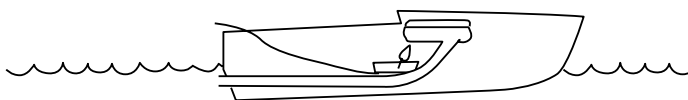

Figure 2.
5. Place the candle holder inside the boat so that the flame is underneath the water tank (this is as far inside as the candle will go, see Figure 2).